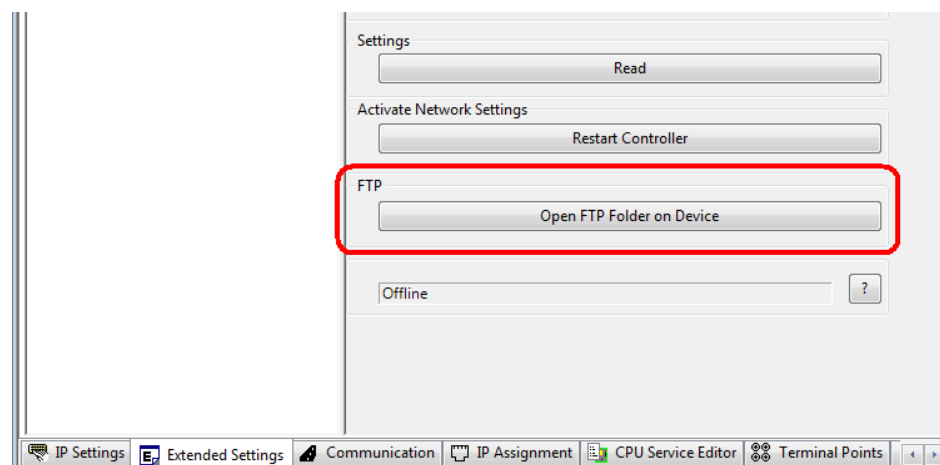

Figure 5-12 Activating the network settings: restarting the controller
- In the “Activate Network Settings” area, click on the “Restart Controller” button (see Figure 5-12 on page 45).